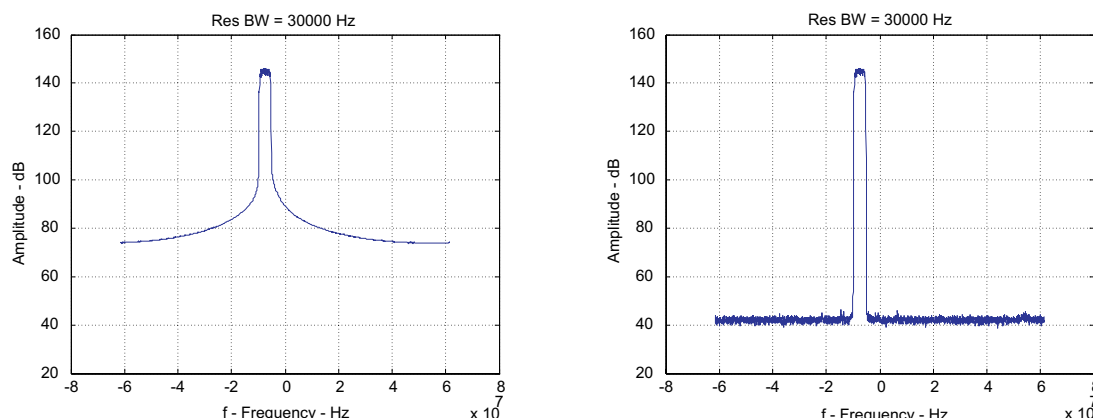

Figure 29. Comparison of Using the Exact Frequency (left) vs Rounded Frequency (right)
- **ExactFreq**—uses the exact frequency specified in **IF (MHz)** and **Carrier Off Freq (MHz)**. When unselected, the frequency is rounded to the closest frequency that has a prime integer number of periods in the pattern time. When using the exact frequency, if there is not an integer # of periods in the pattern time, there may be a glitch in the pattern as it wraps from back to front. This is seen in the FFT display as *skirts* on the carrier (Figure 29). Typically this control is unselected. The rounded frequency for each carrier is stored in a log file in the subfolder /testfiles.
- **Off Freq (MHz)**—offset frequency of the carrier in MHz from the center frequency. Note, this offset may be slightly shifted if the ExactFreq check box is unselected. When using the exact frequency, if there is not an integer number of periods in the pattern time, there may be a glitch in the pattern as it wraps from back to front. This is seen in the FFT display as *skirts* on the carrier (Figure 29). Typically the rounded frequency is used. The rounded frequency for each carrier is stored in a log file in the subfolder /testfiles.